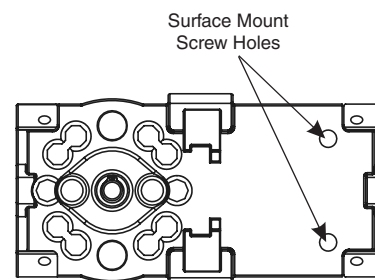

Figure 22
10. Install surface mount screws. (Figure 22)